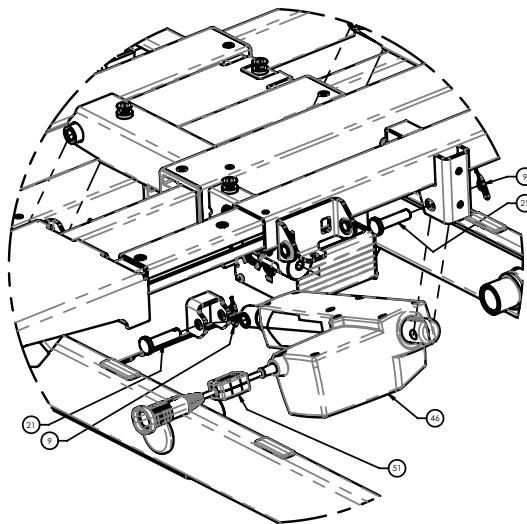

Figure 30 – Gatch actuator replacement
7. Using a small flat screwdriver, release the power/sensor cable quick connect (51) and disconnect the cable from the actuator (46) (Figure 30). When re-connecting the cables, fully seat and lock the cable quick connector retaining ring.
8. Using needle nose pliers, remove both rear ring retaining clips (9) from the clevis pins (21) that attach the actuator (46) to the litter weldment and Fowler weldment (Figure 30).
9. While supporting the actuator (46) with one hand, remove the head end clevis pin (21) and foot end clevis pin (21) and then lower the actuator down (Figure 30).